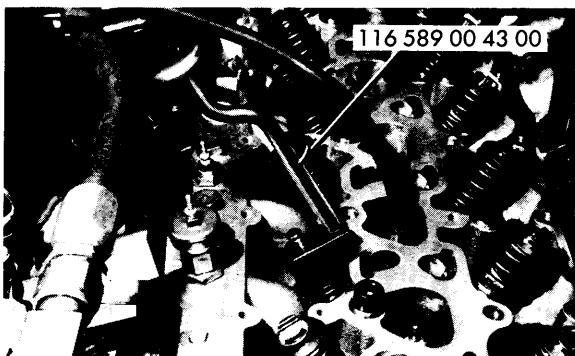

Fig. 4 Installing Valve Stem Seals
**Installation** — To install, lubricate valve stem seals. Place assembly sleeve (115 589 10 59 00) on valve and slide seal into place, using assembly tool (116 589 00 43 00). See Fig. 4. Install remaining components in reverse order of removal.